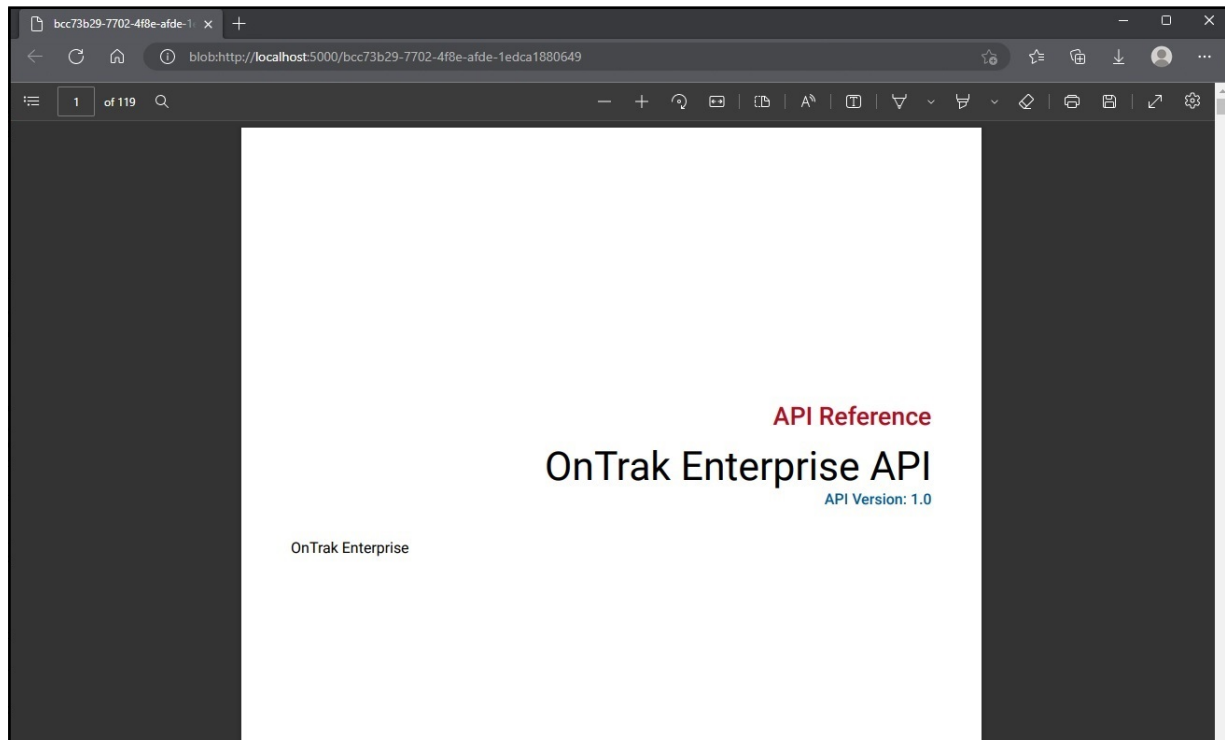

Figure 13-5. API Document Opened In Internet Browser
5. Review the API documentation (see Figure 13-5 on page 169).